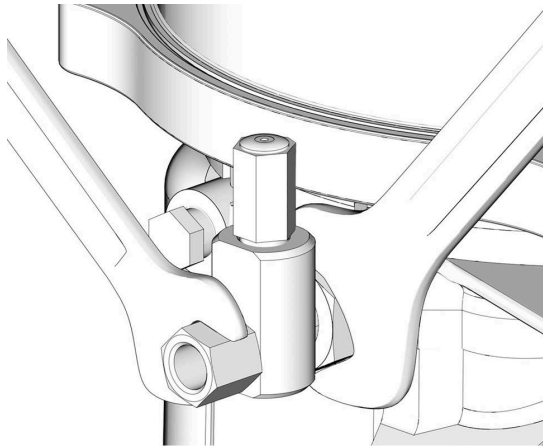

FIG. 8
- Always use two (2) wrenches working in opposite directions when connecting anything to the pump element or auxiliary fittings. See FIG. 8 for an example.